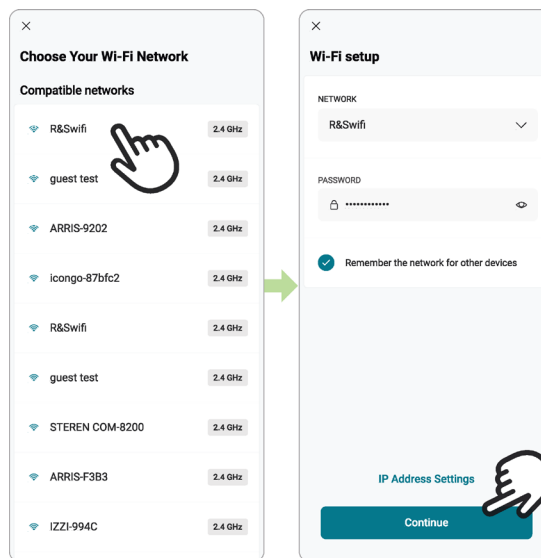

Figure 17. Wi-Fi Setup
4. The "Wi-Fi setup" screen will appear. Select or enter the Wi-Fi network you want your unit to be connected to and enter the network password. See **Figure 17**.
- Raymote app will provide the Wi-Fi credentials to your unit. This process may take a few seconds. See **Figure 17**.